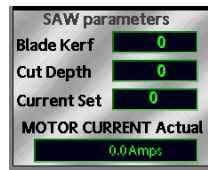

Figure 1.5: Main Screen Saw Information
**The** display area will show the Operator details about the current step of the saw program. This will include such details as the current block being cut, or position moving to, while the Mode is automatic and the program is being executed. If the mode is automatic and the program execution is interrupted, or has completed, the display will show the last step being executed. If the Mode is Manual (Hand), and automatic operation has not been started/completed/interrupted, then it will display no block. Otherwise, the display will be the last step details from program execution, the same as if in Automatic mode. ( **i** ) The saw will keep track of where it is in the Cut Program execution cycle, even if cycle stop is pressed. Further details about how the Cut Program is executed, and what behaviour to expect from cycle interruption due to completion, alarms or Operator action can be found in the section(s) following. The Program details (figure 1.5) will display information about the current Block being worked on, if running in Auto Cycle. If the cycle has been stopped, the details displayed will be about the current block being worked on, this is the same in both Hand and Auto Modes, as well as in the case of a faulted condition. This means that if the saw has finished cuts for a block entirely, the display will actually show details about the next block to work on since it is now the current block. If the cycle has completed without error, then the details of the last block programmed will be displayed, in either Hand or Auto Modes. If the program has not been run, and the Mode is either Hand or Auto (not in cycle) then the first block in the program will have it's details displayed.